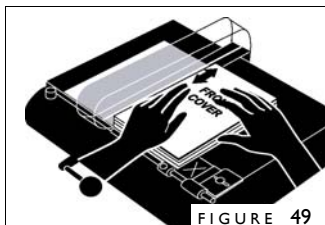

FIGURE 49
5. With the book spine pushed fully and firmly to the left, fold the cover over your book block (figure 49). Starting at the middle, rub down back and forth to secure the cover to the adhesive.